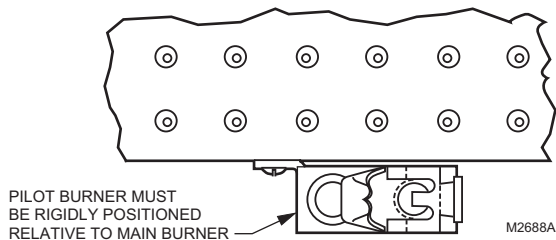

Fig. 5. Mount pilot burner on main burner.
2. Mount the pilot burner on the main burner. Mounting surfaces other than the main burner can shift, bend, or warp as the furnace expands and contracts while operating. See Fig. 5.